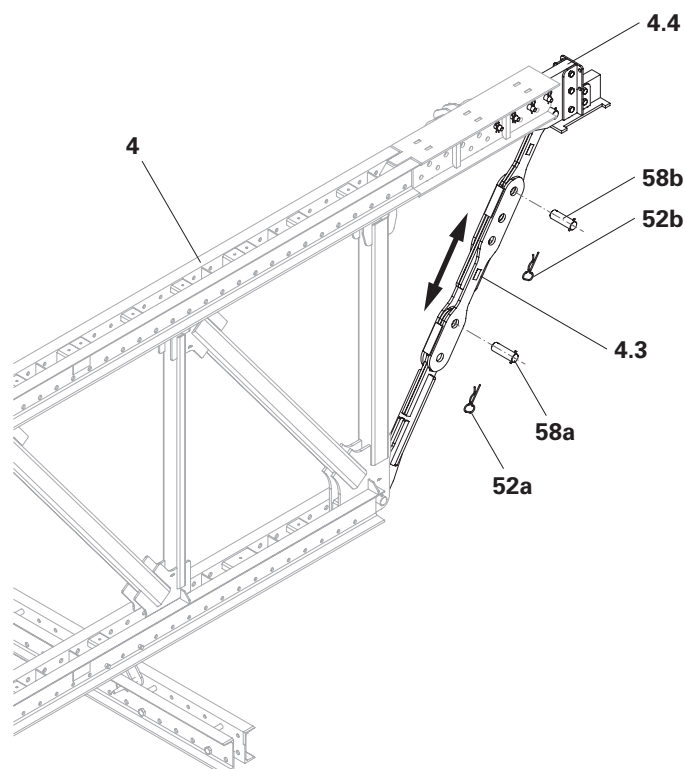

Fig. B1.12
(Fig. B1.12)
4. Insert bolt (**58a**) and secure with cotter pin (**52a**). (Fig. B1.12)